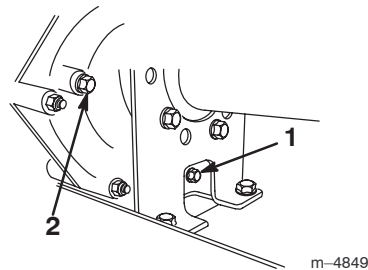

Figure 42
2. Remove the drain plug from the right side of the reservoir (Fig. 42) and let the fluid flow into a drain pan. Install and tighten the plug when the fluid stops draining.
3. Fill the reservoir (Fig. 43) with approximately 1-1/2 qt. (1.4 liters) of SAE 10W30 motor oil or until the oil level is at the bottom of the level indicator hole (Fig. 42).